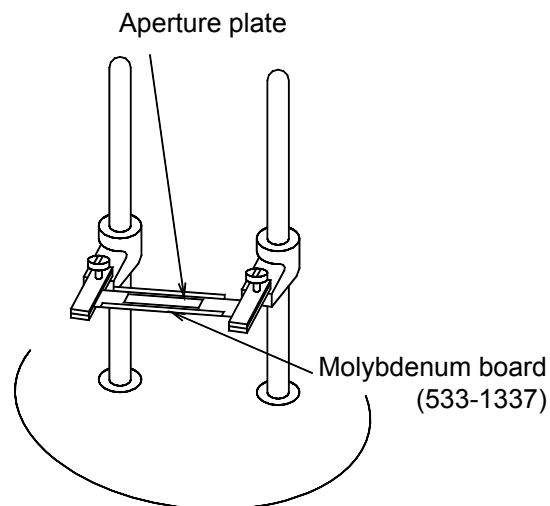

Fig. 4-2 Baking of Aperture Plate
- (1) Use the vacuum evaporator for heating aperture plates. For handling of the vacuum evaporator, refer to the instruction manual of the evaporator.
- (2) Mount the molybdenum board in the vacuum evaporator. (See Fig. 4-2.)
- (3) Evacuate the vacuum evaporator to better than 5×10^{-3} Pa.